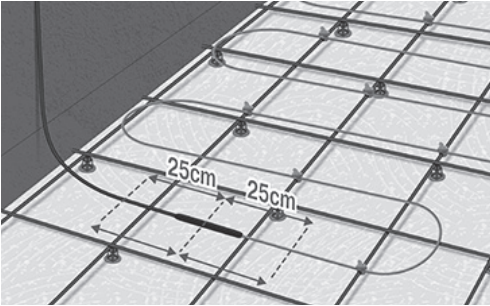

Fig. 3. Keep cable straight either side of the joint
4. The cable should be kept strait for min. 25 cm each side of a joint. Covering material must fully encapsulate the joints by at least 20 mm either side of the joint (Fig. 3).